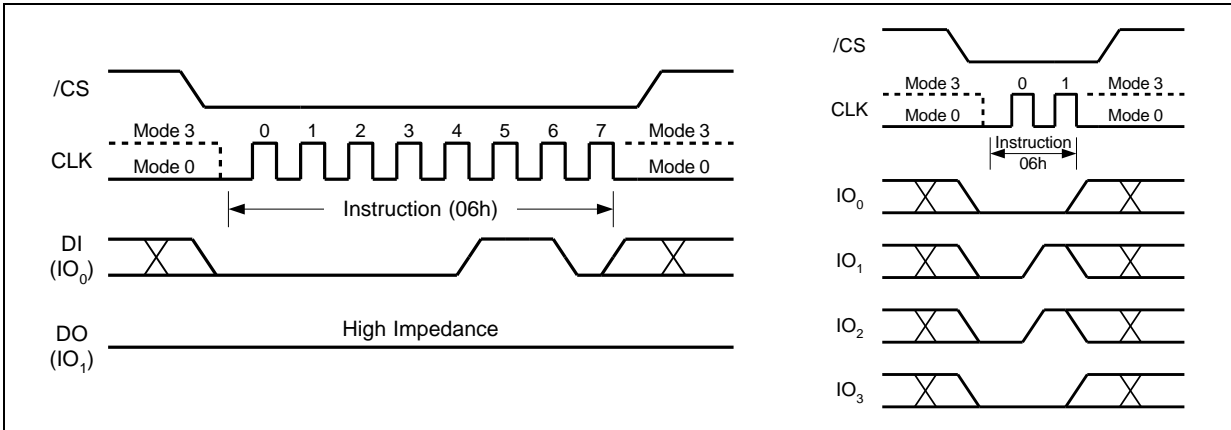

Figure 5. Write Enable Instruction for SPI Mode (left) or QPI Mode (right)
The Write Enable command (Figure 5) sets the Write Enable Latch (WEL) bit in the Status Register to a 1. The WEL bit must be set prior to every Page Program, Quad Page Program, Sector Erase, Block Erase, Chip Erase, Write Status Register and Erase/Program Security Registers command. The Write Enable command is entered by driving /CS low, shifting the command code “06h” into the Data Input (DI) pin on the rising edge of CLK, and then driving /CS high.